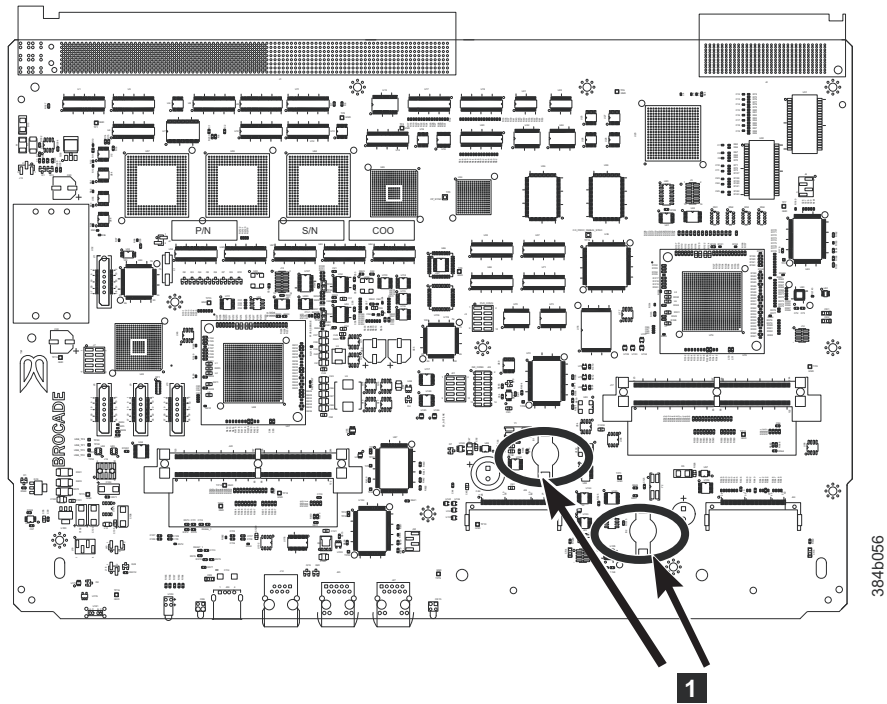

Figure 50. Battery locations on the SAN384B
6. Go to the following locations and remove the two BR1225 batteries from each of the PCBAs (see **1** in Figure 50):